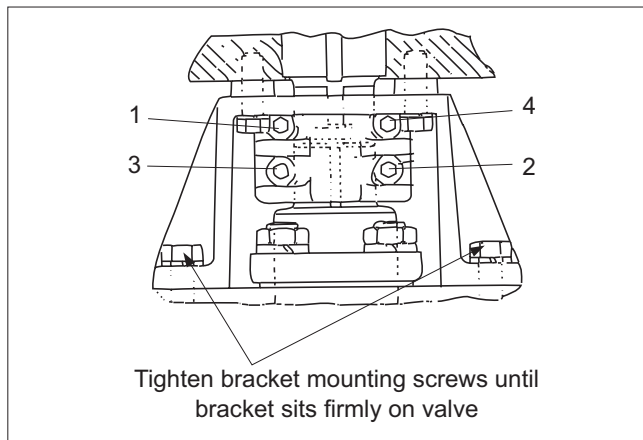

Figure 7.
- Lower actuator and bracket onto the valve while engaging actuator stem driver into coupling. Tighten screws just enough to firmly mate bracket to valve. This should allow the bracket to slip somewhat to align itself. See **Figure 7**.
- Tighten no-play coupling screws, if appropriate, in the sequence and to the torques shown in **Figure 7**.
- Recheck and, if necessary, adjust no-play coupling screw torques. See **Figure 7**.